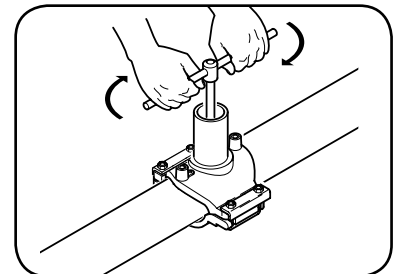

FIG. 4
- 8 Proceed now with the perforation of the pipe through a specific cutter (see fig.4).